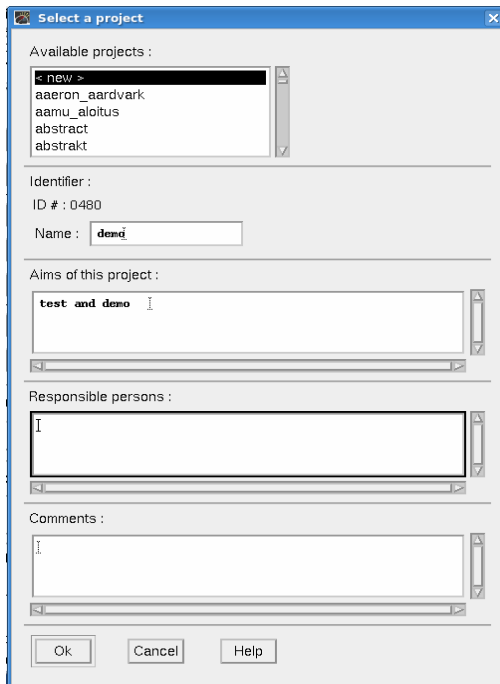

Figure 22: Select or create a project.
- Select **Change** next to **Project** in Figure 2, then select <new> (Figure 22).